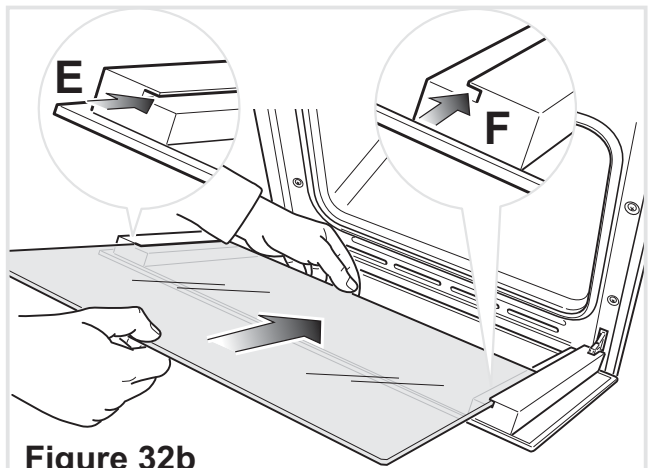
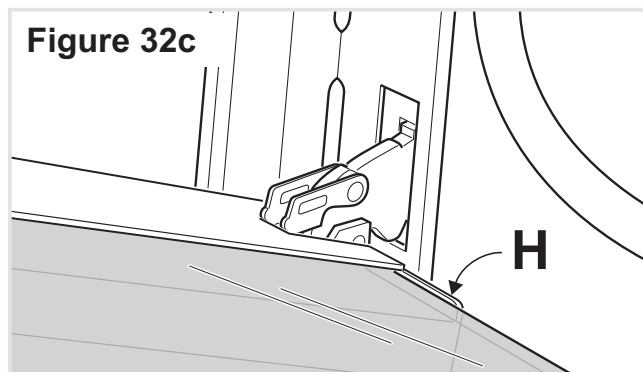

Figure 32b
Figure 32c
- Insert the pane in the left “E” and right “F” slide guides (fig. 32b), and gently slide it to the retainers “H” (fig. 32c).